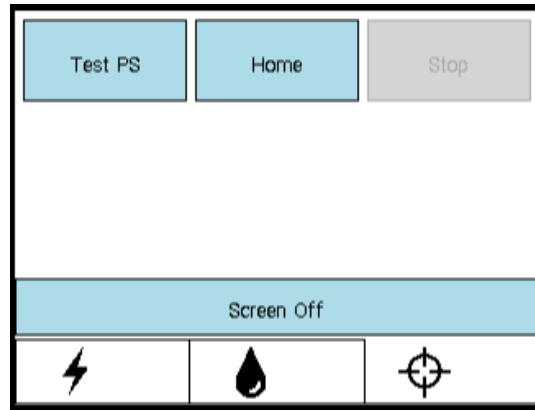
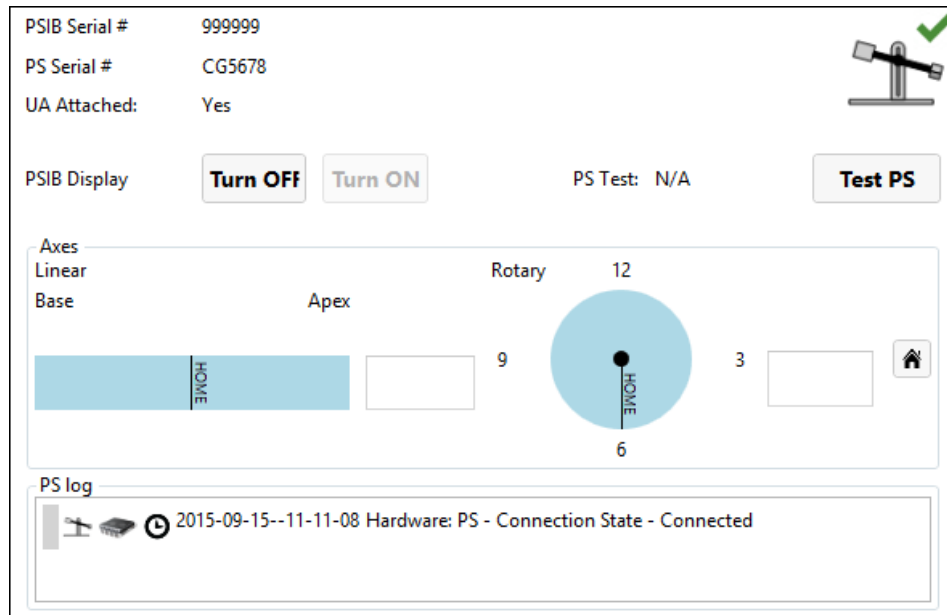

Figure 15: PSIB display - PS tab
Figure 16: PS information box in Setup workspace
- On the PSIB display, select the PS tab and click **Test PS** (Figure 15). The system will translate the PS forward and backward to test the continuity and functionality of the translation axis as well as home the PS in the translation axis. The system will also rotate the rotational axis clockwise and counter-clockwise to test the continuity and functionality of the rotational axis. (This can also be done from the TDC *Setup* workspace in the PS information box in the bottom-right quadrant Figure 16.)